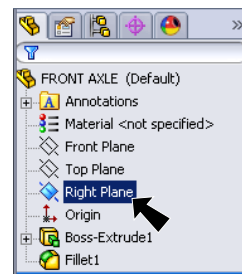

Fig. 9
Step 1. Click **Right Plane**  in the Feature Manager to select Plane, **Fig. 9.**